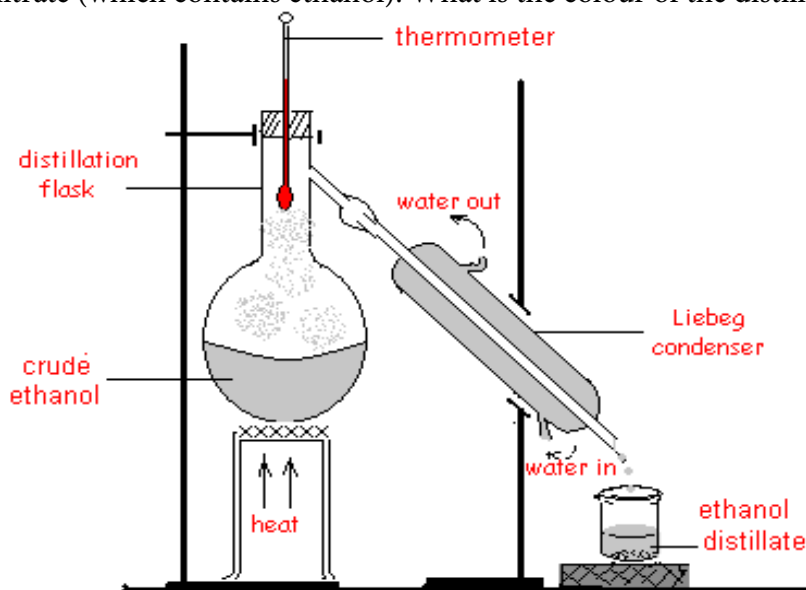

Figure 13.1: Distillation of crude ethanol
6. Arrange the apparatus as in Figure 13.1. Carry out distillation of the brown filtrate (which contains ethanol). What is the colour of the distillate?
3. The filtrate is then distilled locally to produce crude waragi using arrangement of apparatus as in Figure 13.1.